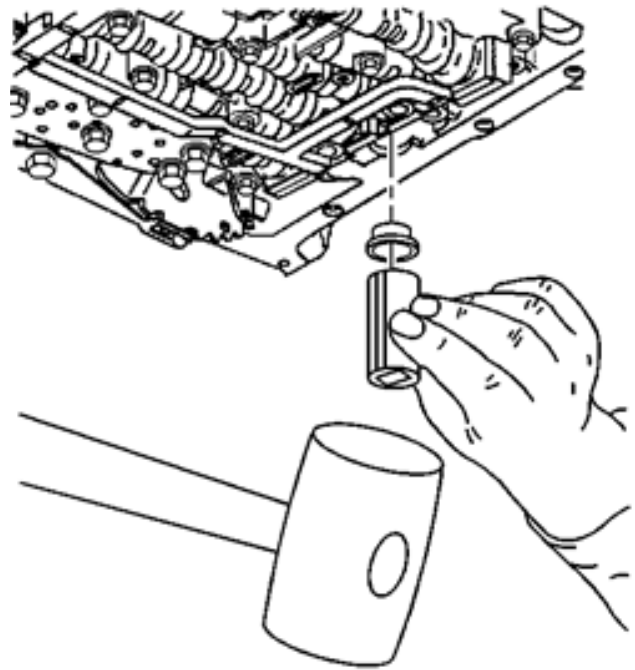

Figure 6
2. Install the new filter seal into the transmission case. Tap the seal into place using a suitable size socket. **Reference Figure 6.**